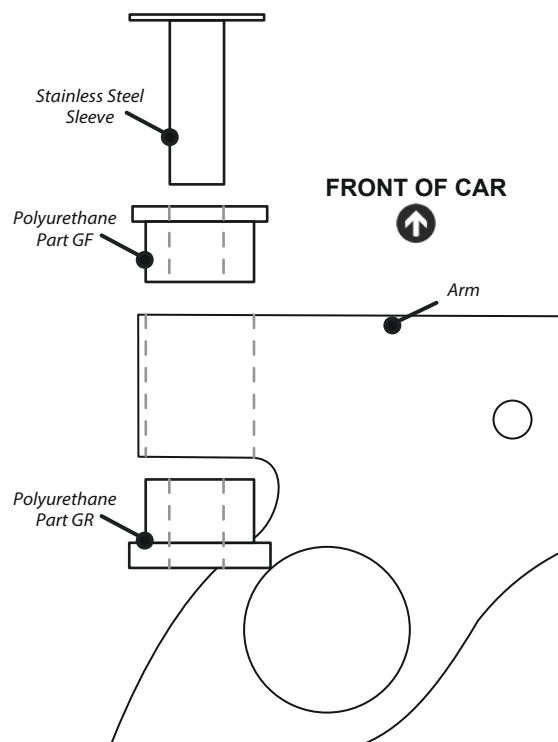

Figure 1
3. Insert the bushes into the arm with part GF, with the smaller lip, going in from the front of the car as shown in Figure 1.